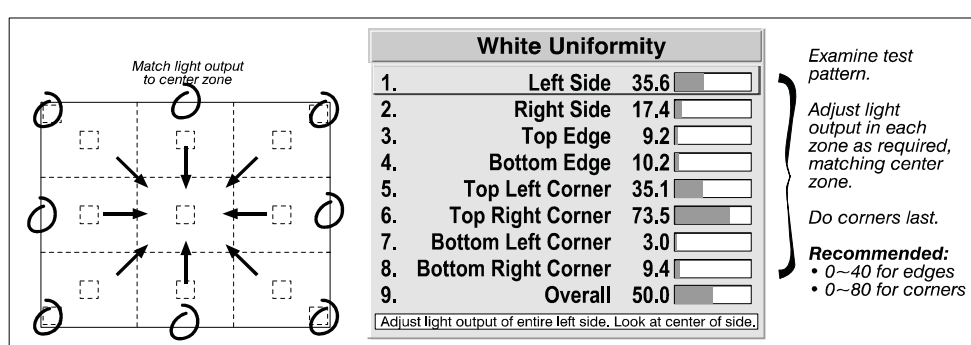

Figure 3-44 Match Zones to Center Light Output
- For each screen, compare the light output of each edge and corner to that of the center. If any of the areas differ, use the **White Uniformity** menu to match edges and corners to the center as described below (see Figure 3-44). Begin with the screen exhibiting the most obvious variations in light output.